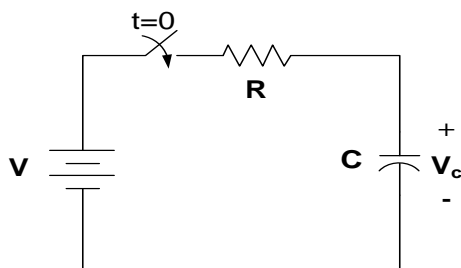

Figure 1: RC series circuit
For electrical circuits such as the RC circuit of Fig. 1, the total step response (sum of forced “steady-state” response and “transient” natural response) can be obtained by solving the 1st order differential equation describing the circuit. When there is no initial charge across the capacitor, the voltage  $V_C(t)$  for  $t \geq 0$  is shown to be given by:
1. Build the circuit of Fig. 1 in *Multisim Electronics Workbench*. Note node numbers